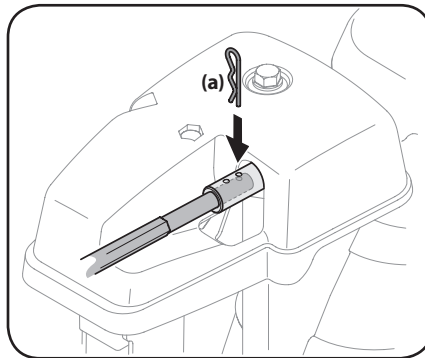

Figure 2-19
7. Push chute control rod toward control panel until hole in rod lines up with hole in chute control input closest to chute control assembly and insert hairpin clip (a) removed in Step 1. See Figure 2-19.